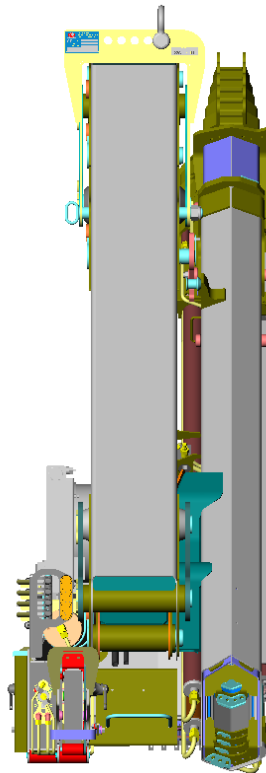

Figure 3 – Loader with lifting yoke seen from the rear.
- The lifting yoke is equipped with a row of holes used for attachment over the centre of gravity of the loader. (cf. figure 3).